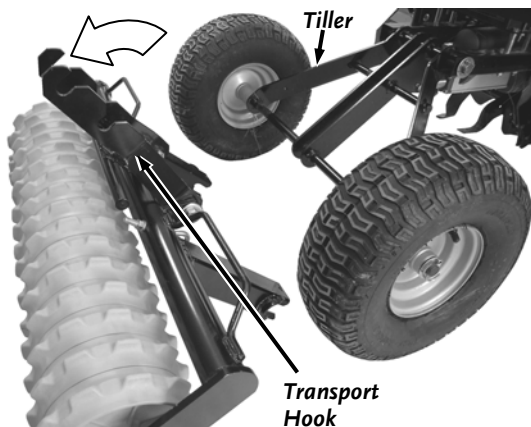

Figure 20
2. Position the Culti-packer at the rear of the Tiller near the wheel axle (**Figure 20**).